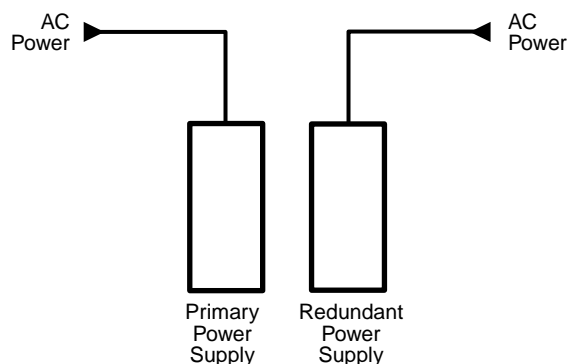

Figure 2. Redundant Power Supply Backs Up Primary Power Supply
- **Two power input circuits** — The two complete power circuits, from the plug, through the power supply, to the power insertion onto the power distribution plane, are separate and independent from each other (see figure 2).